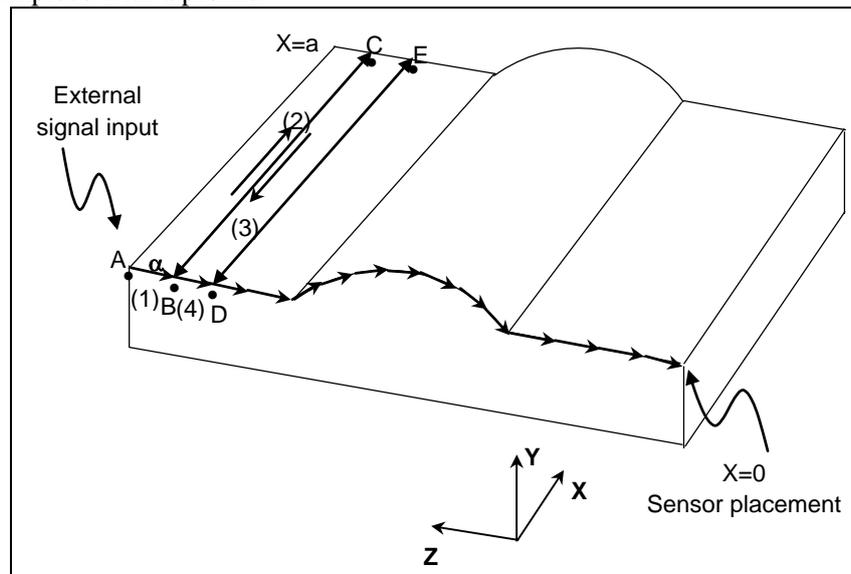

Fig. 5.6 (a)
For example, it is possible to machine a workpiece with a profile programmed with linear interpolation, circular interpolation, and linear interpolation on the YZ plane, such as that shown in the Fig. 5.6 (a).
Then, when the sensor detects the grinding wheel, the switch on the machine operator's panel is input, and the machine makes a cut by the constant amount  $\alpha$  along the programmed profile on the specified YZ plane and moves to point B (operation (1)). The machine is then placed in the state in which it waits for the input of the switch on the machine operator's panel again, and performs a grinding operation along the X-axis. It grinds from point B to point C (operation (2)) and grinds back from point C to point B (operation (3)). When the machine returns to point B, the sensor detects the grinding wheel again, and the switch on the machine operator's panel is input, so that the machine makes a cut by the amount of  $\alpha$  and moves to point D (operation (4)). At point D, the machine performs a grinding operation along the X-axis. Afterwards, each time the switch on the machine operator's panel is input, the machine makes a cut by the amount of  $\alpha$  along the profile program, so that the workpiece is machined to a profile such as that shown in the Fig. 5.6 (a).